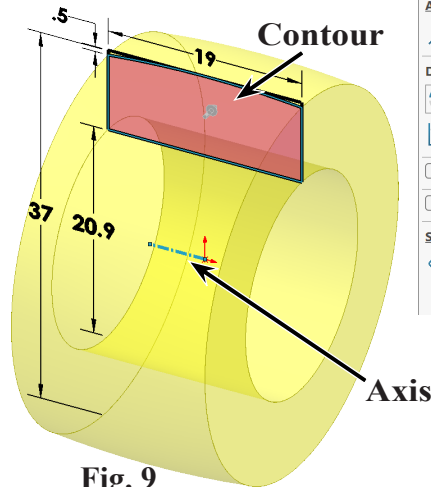

Fig. 9
- under Selected Contours click the **contour**, **Fig. 9**